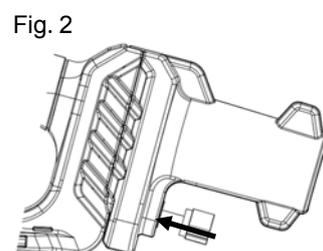

Fig. 2
- When extension pole is fully inserted in place, press the clamping knob and then tighten the knob by turning clockwise to lock into place. (Fig. 2– Fig. 3)